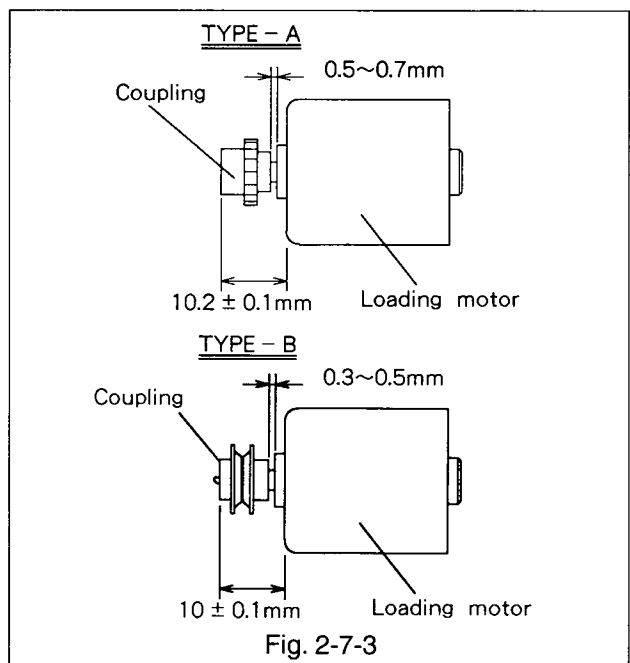

Fig. 2-7-3
- Fasten the coupling to a new loading motor.(Refer to Fig. 2-7-3.)